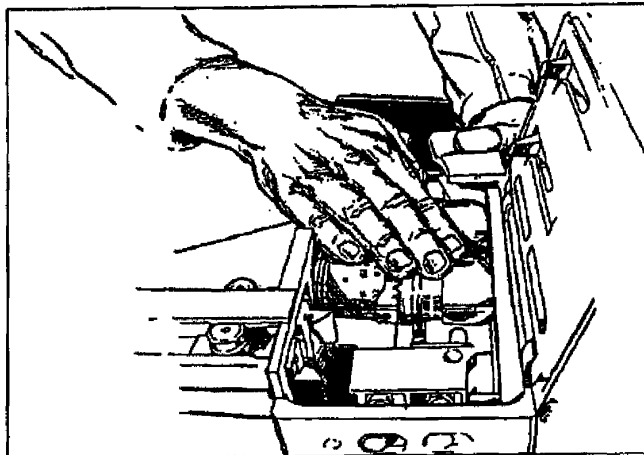

Figure 071-030-0005-2. Pushing round across feeder pawls
c. Index the feed slide assembly to the left and close the top cover (figure 071-030-0005-3).